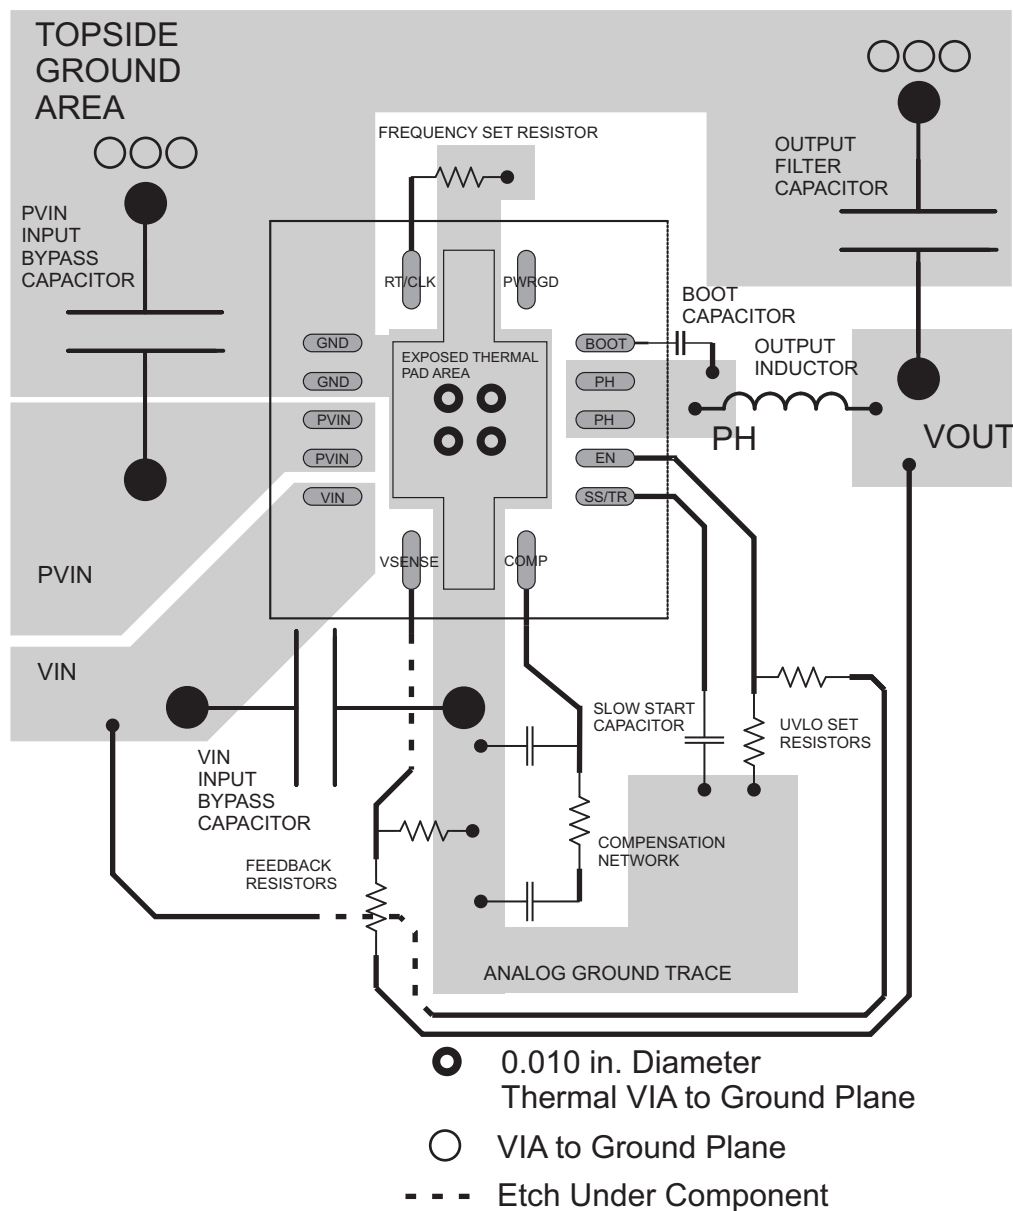

Figure 55. PCB Layout
The TPS54620 is designed to operate from an input voltage supply range between 4.5 V and 17 V. This supply voltage must be well regulated. Power supplies must be well bypassed for proper electrical performance. This includes a minimum of one 4.7- μ F (after de-rating) ceramic capacitor, type X5R or better from PVIN to GND, and from VIN to GND. Additional local ceramic bypass capacitance may be required in systems with small input ripple specifications, in addition to bulk capacitance if the TPS54620 device is located more than a few inches away from its input power supply. In systems with an auxiliary power rail available, the power stage input, PVIN, and the analog power input, VIN, may operate from separate input supplies. See Figure 55 (layout recommendation) for recommended bypass capacitor placement.
- Layout is a critical portion of good power supply design. See Figure 55 for a PCB layout example.